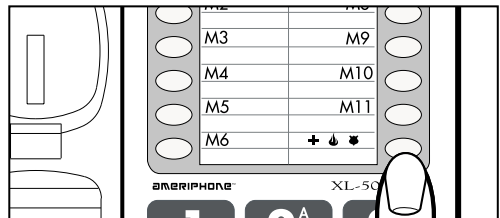

Figure 19 - Memory Buttons
You can automatically dial twelve programmed telephone numbers using the memory buttons shown in Figure 19. Each button can be programmed (or reprogrammed using the same procedure) for a phone number up to 15 digits long.
3. Press a memory button (Figure 19) to store this number on that button.